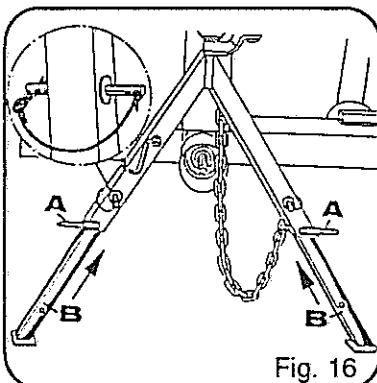

Fig. 16
For transport, the rake is hooked onto the lower guide rod of the tractor (fig. 16, pos. A). After raising the lower guide rod with the three-point hydraulics, the supports are inserted in the 3-pt. hitch and secured (fig. 16, pos. B).
- Remove supports and secure (see pm Page 14, fig. 16).
If the rake has been stored for some time in the transport position, the tine arms in the slotted plate should be greased at the insert end (see also p. 15, Fig. 16, pos. O).